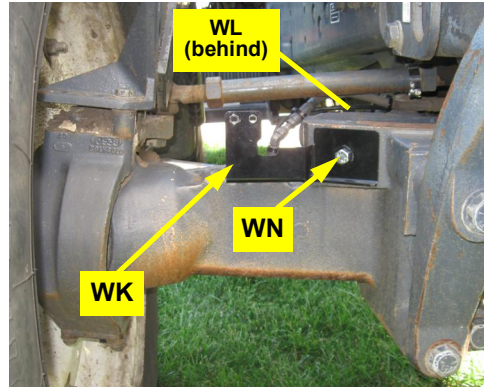

Figure 2b: Installed WAS brackets
b. Using hardware **WN** install the WAS brackets **WK** and **WL** at the location. **WL** is toward the back of the machine. Set **WK** level with the front axle (Figure 2b).